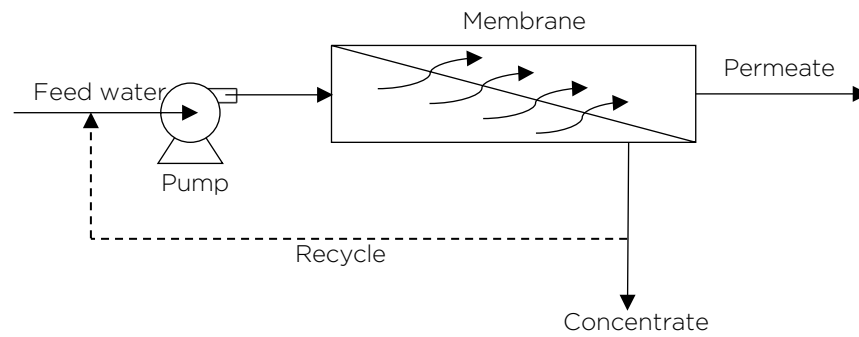

Figure 1. Schematic representation of a basic membrane filtration process
UF is not fundamentally different from microfiltration (MF) except in terms of the molecular size of the contaminants removed. A basic membrane filtration process is shown in Figure 1. The process is pressure driven and typically operates with a feed pump that pushes water through the membrane.